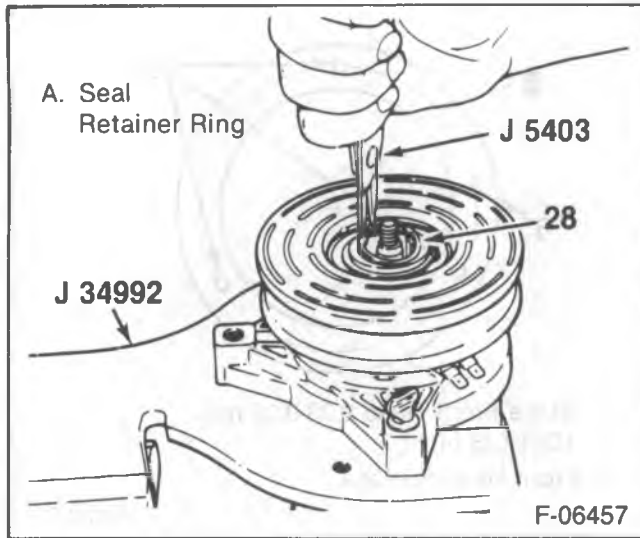

Figure 21—Removing or Installing the Shaft Seal Retainer
- 4. Shaft seal retainer ring using J 5403 (figure 21).